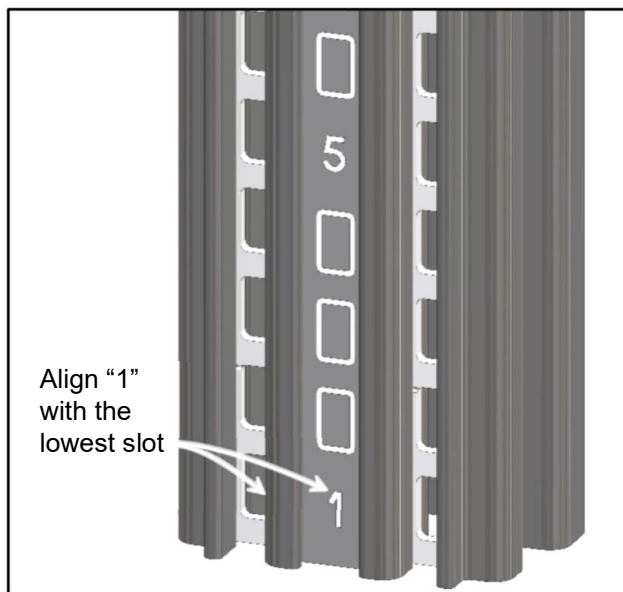

Figure 6
1. Align the "1" or "D" symbol on the Number Strip with the bottom slot in the Slotted Standards (See Figure 6).